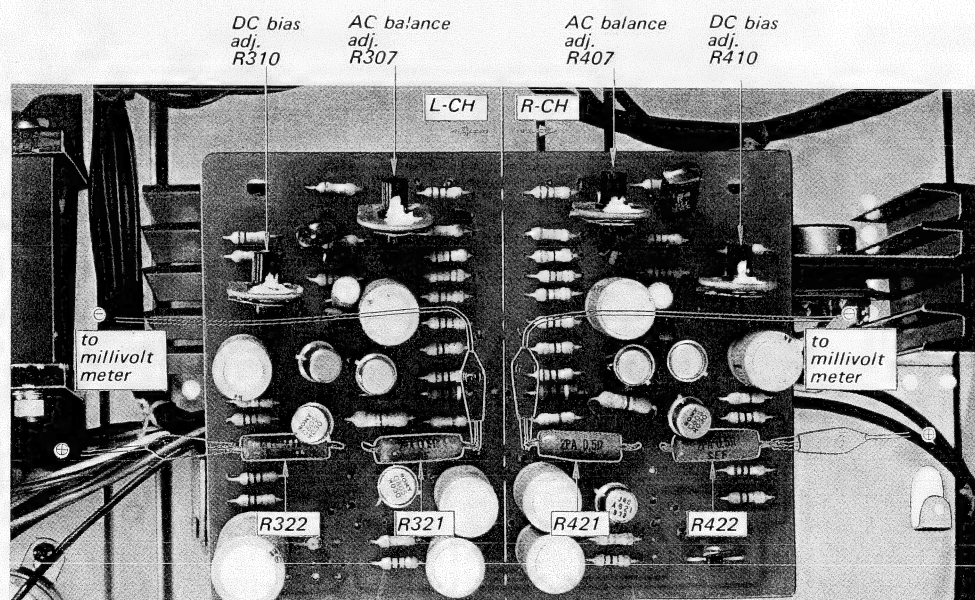

Fig. 3-1 Power amplifier adjustment
To avoid accidental power transistor damage, increase the ac line voltage gradually (using a variable transformer) while measuring the voltage across emitter resistors R321 and R322 (or R421 and R422) as shown in Fig. 3-1. Check to see that the reading does not exceed 50 mV. If it does, turn off the power immediately, then check and repair the trouble in the power-amplifier board.
2. Connect the dc millivoltmeter between R321 and R322 (R421 and R422) as shown in Fig. 3-1.
1. Apply a drop of cement solvent to the semi-fixed resistors (Fig. 3-1).